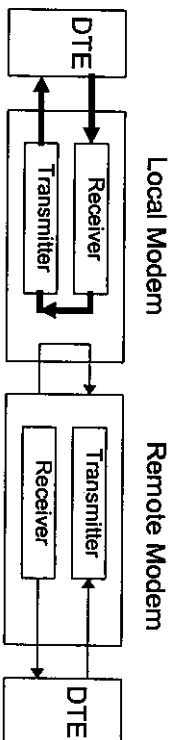

Figure 16. Local Analog Loopback Test
- Local Analog Loopback (LAL)** - This test lets you check the interface and connection between the modem and the DTE (Figure 16). A successful LAL executed after a successful LDL test verifies that the modem is operating properly.